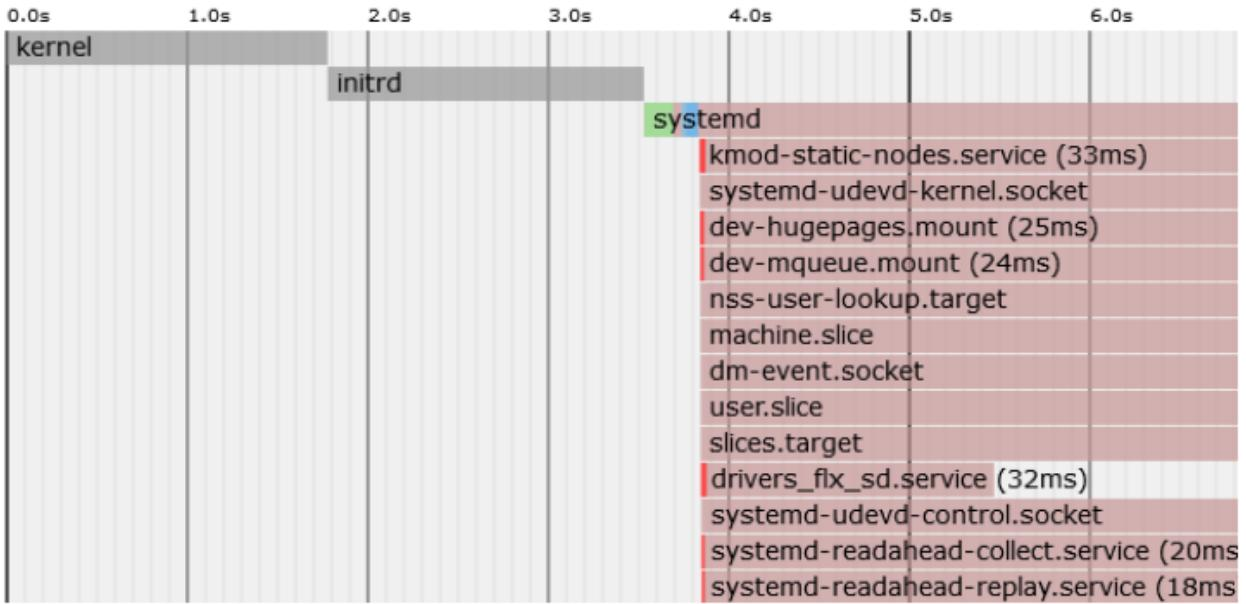

Figure 10.1 Example output of `systemd-analyse`.
- Run `systemd-analyze plot drivers_flx_sd.service > p.svg; eog p.svg`. You will see something like what is shown in Figure 10.1.